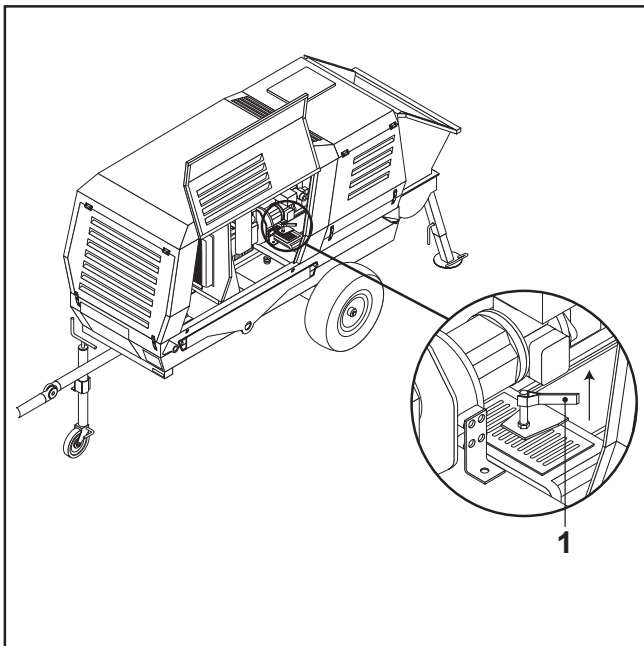

FIG.43
- Open the discharge lever (FIG. 43-REF. 1) to empty the tank.
- Turn the lever (FIG. 43-REF. 1) to its horizontal position to close the tank.